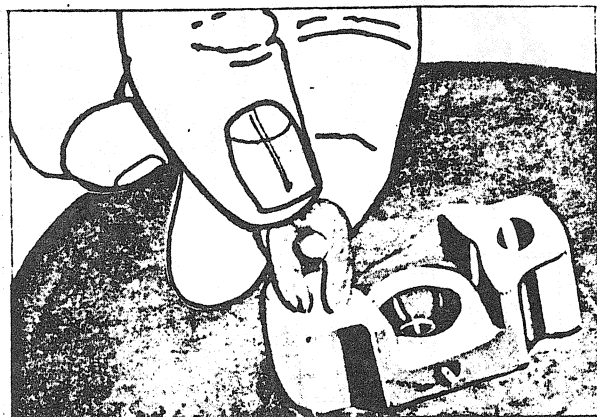

FIGURE 4
- Unwind the starter rope from the sheave then using a pair of long nose pliers, pull the rope from the sheave. Take care not to lose the small jam pin that is enveloped in the rope end. (fig. 4).